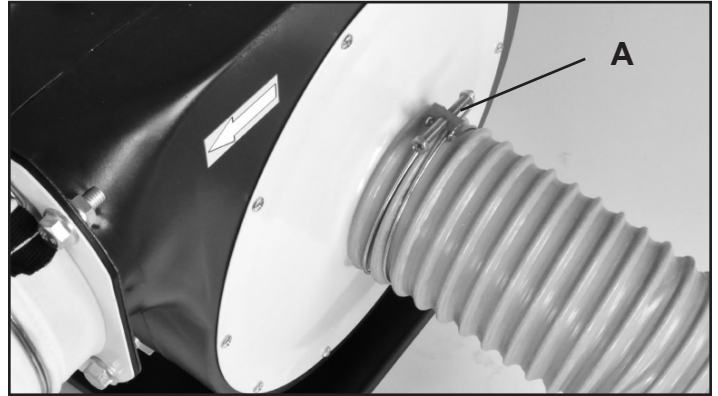

FIG. 4
1. Slip a hose clamp (A) over both ends of the hose.
2. Place one end of the hose over the 4" inlet on the fan's Housing Cover (#20) and tighten the hose clamp with a slotted screwdriver or wrench. Figure 4.